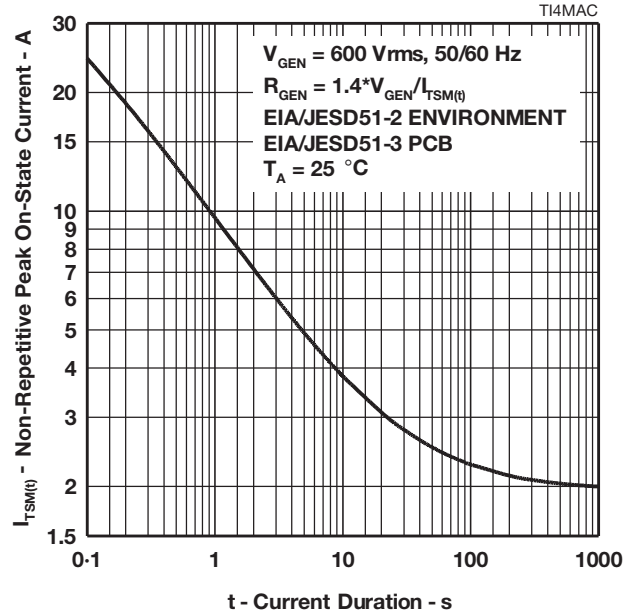

Figure 11.
10. EIA/JESD51-2 environment and EIA/JESD51-3 PCB with standard footprint dimensions connected with 5 A rated printed wiring track widths. See Figure 11 for the current ratings at other durations. Derate current values at  $-0.61\text{ }^\circ\text{C}$  for ambient temperatures above  $25\text{ }^\circ\text{C}$ .